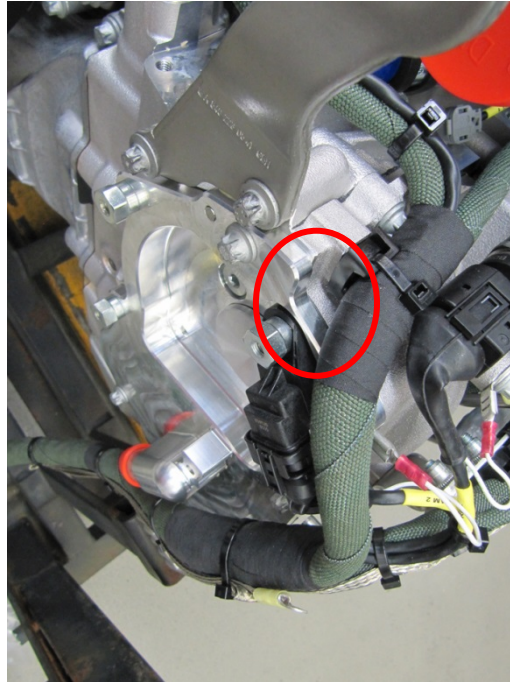
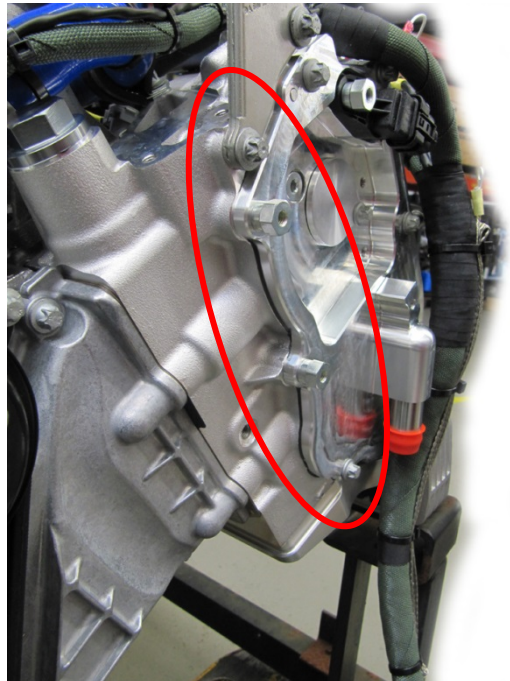

Figure 1
Figure 2
1. Check the side cover for oil leaks at the marked points. See Figure 1 and Figure 2.